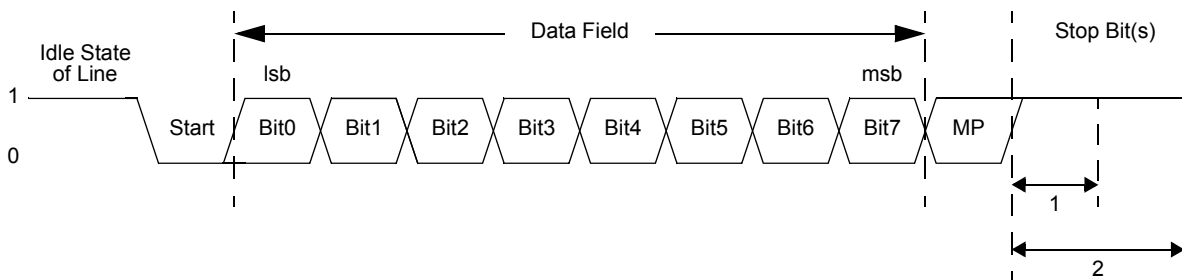

Figure 16. UART Asynchronous Multiprocessor Mode Data Format
The UART has a Multiprocessor (9-Bit) Mode that uses an extra (9th) bit for selective communication when a number of processors share a common UART bus. In Multiprocessor Mode (also referred to as 9-bit mode), the multiprocessor bit (MP) is transmitted immediately following the 8 bits of data and immediately preceding the stop bit(s); the character format is displayed in Figure 16.